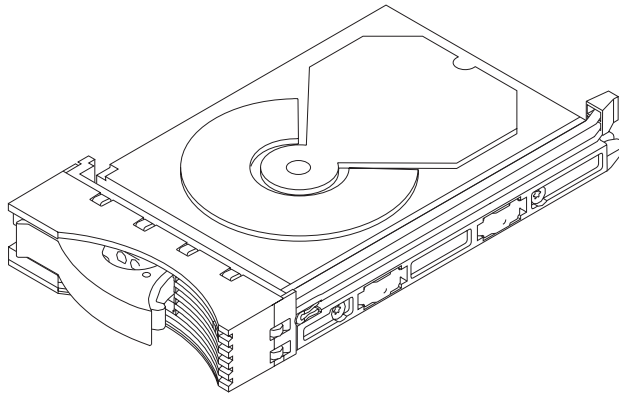

Figure 29. Placing a Disk Drive Module into a Safe Position
Step 15. Refer to Figure 29.
Step 16. Lay down the module as shown. In this position, the module rests on four supports (not visible in Figure 29).